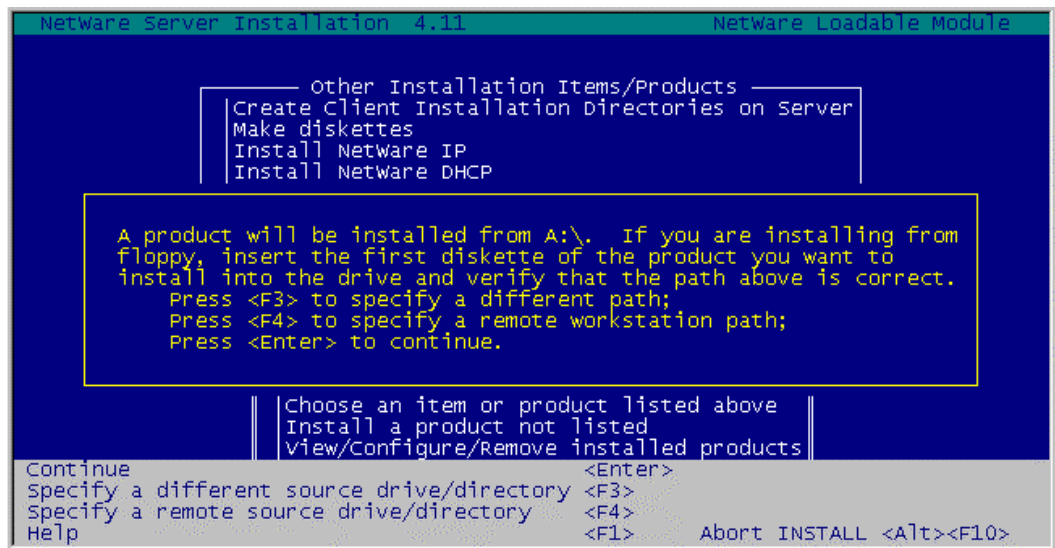

Figure 12-3. Install Product Screen
4. Select **“Install a product not listed”**. The Install Product screen (Figure 12-3) will be displayed.